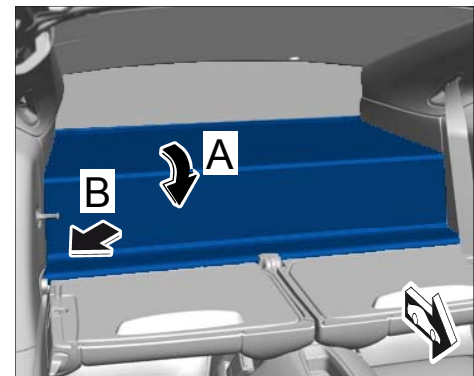

Figure 6
- 8 Swivel rear cover downwards ⇒ *Figure 6-arrow A-*, align it and press it sideways into the side trim panel ⇒ *Figure 6-arrow B-*.